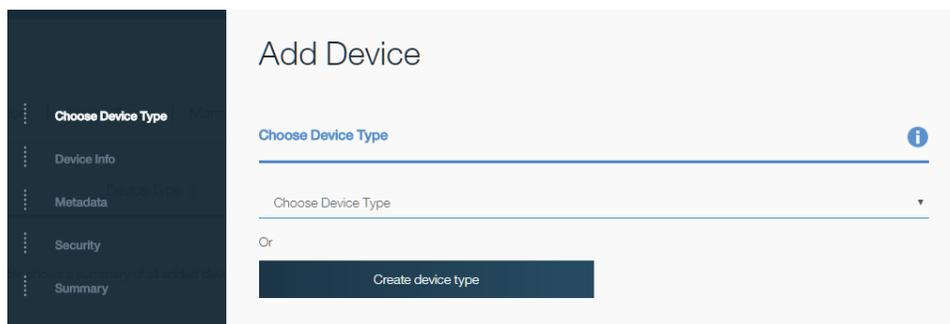

Figure 19. Create Device Type
7. Select **Create device type** (see Figure 19).